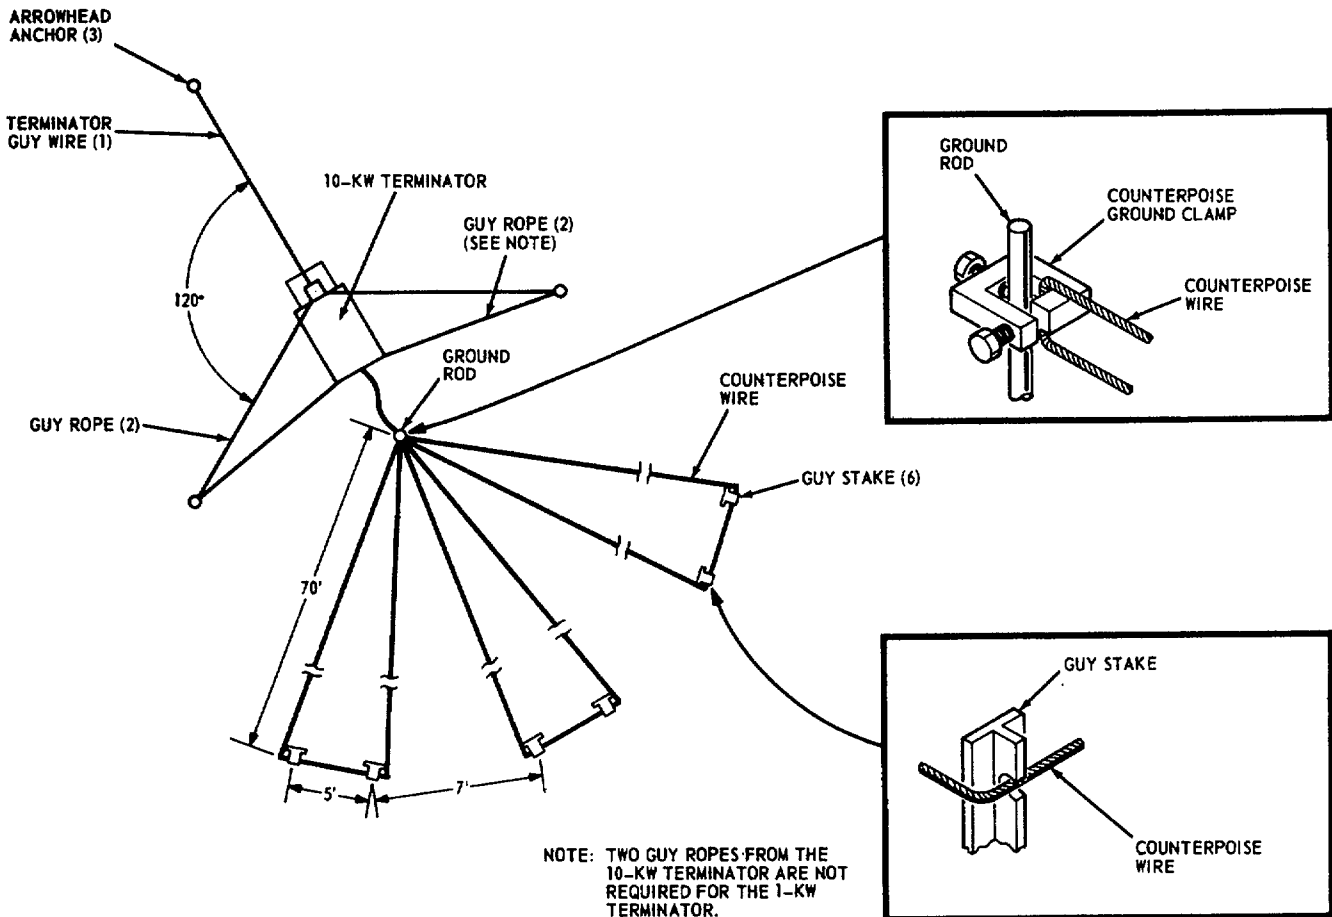

Figure 2-7. Sloping vee antenna counterpoise installation, plan view.
- (17) Extend the guy ropes so that they form an angle 120° from the terminator guy wire, as shown in figure 2-7.
- (18) Using an arrowhead anchor driving rod, drive an arrowhead anchor into the ground at a point where the end of each of the guy ropes touches the ground.
- (19) Using a shackle and clevis pin, attach the end of each guy rope to the arrowhead anchor guy ring. Adjust the guy ropes to remove any slack.
- (20) Loop the counterpoise wire through the opening in the counterpoise clamp (fig. 2-7) and unreel the counterpoise wire toward guy stake No. 1.
- (21) Loop the counterpoise wire through the slot in guy stake No. 1 (fig. 2-7) and extend the counterpoise wire to guy stake No. 2.
- (22) Loop the counterpoise wire through the slot in guy stake No. 2 and unreel more counterpoise wire back to the counterpoise clamp.
- (23) Loop the counterpoise wire through the counterpoise clamp and unreel the counterpoise wire to guy stake No. S8.
- (24) Continue to thread the counterpoise wire between the ground rod and the guy stakes as shown in figure 2-7. Insure that each leg of the counterpoise is taut.
- (25) After the last loop has been taken through the counterpoise clamp tighten the capscrew to close the opening in the counterpoise clamp.
- (26) Tighten the capscrew on the counterpoise clamp until the counterpoise clamp and counterpoise wires are all secured to the ground rod.
- c. The additional guying from the corners of the 10-kw terminators is not required for the 1kw terminator. Refer to the note on figure 2-7.